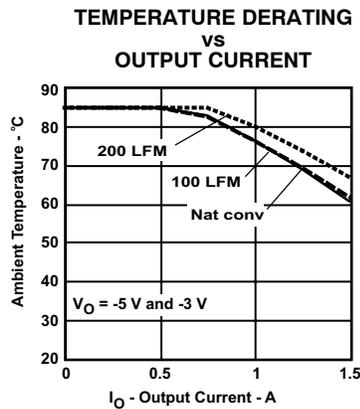
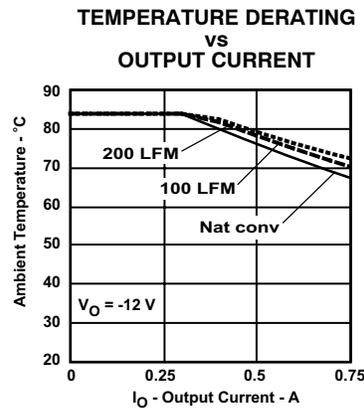
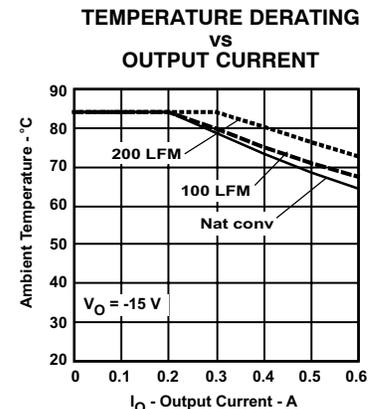

Figure 10.
Figure 11.
Figure 12.
- (2) The temperature derating curves represent the conditions at which internal components are at or below the manufacturer's maximum operating temperatures. Derating limits apply to modules soldered directly to a 100-mm x 100-mm, double-sided PCB with 2 oz. copper. For surface mount packages, multiple vias (plated through holes) are required to add thermal paths to the power pins. Please refer to the mechanical specification for more information. Applies to Figure 10, Figure 11, and Figure 12.